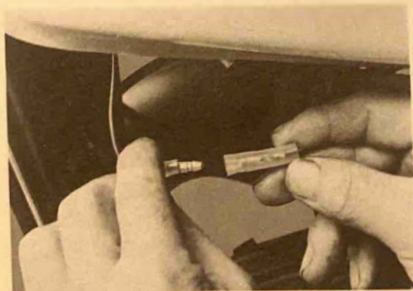

Fig. 35
19. Connect the kill switch lead wire to the lead wire (Black/White) coming from the C.D.I. Unit Ass'y under the fuel tank, as shown in Fig. 35. If necessary, remove the fuel tank.